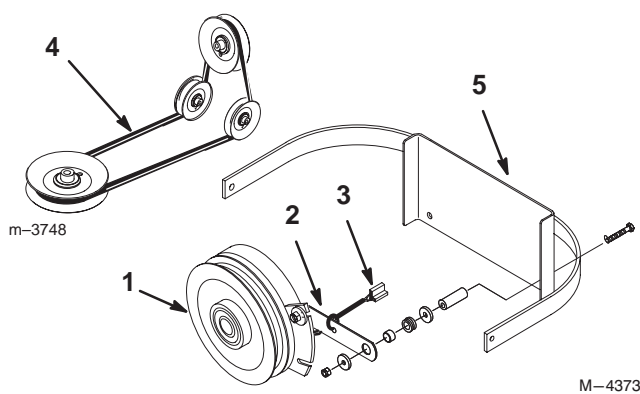

Figure 51
- Remove the clutch retaining strap from machine frame and unplug clutch terminal from wire harness (Fig. 51).
- Install clutch retaining strap and plug clutch terminal into main wire harness (Fig. 51).